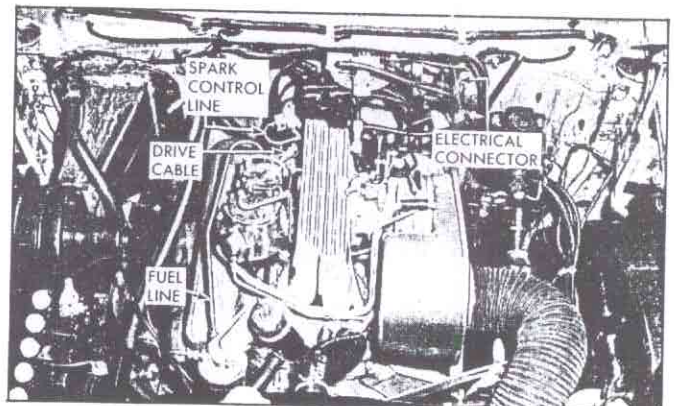

Fig. 166—Fuel Injection Installed on Engine
2. Connect distributor spark control pipe (fig. 166) into 45-degree fitting in air meter, then tighten fitting at distributor end of pipe.